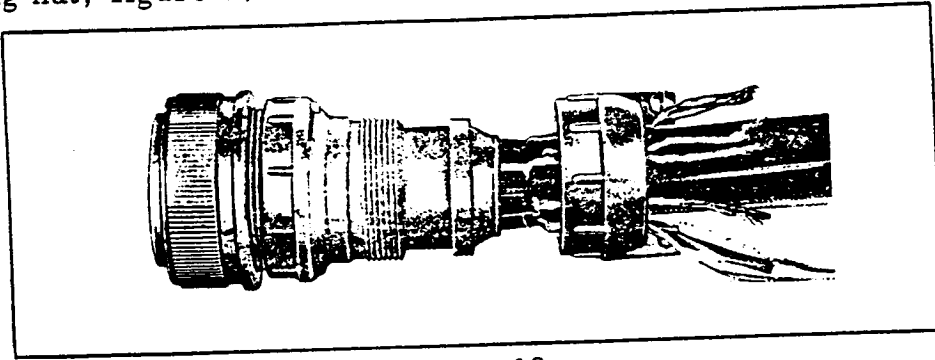

Figure 19
f. Tighten the back shell - seat the grommet - fill unused grommet holes - lubricate as previously described - and bring the braided wire back under the clamping nut, figure 19